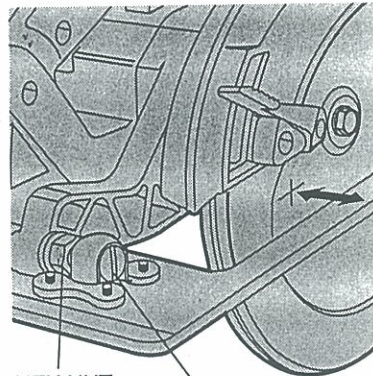

FIG. 12
2. Loosen the hex nut shown in (Figure 12) and then turn the adjustment screw in or out as needed to adjust for parallelism.
3. Adjust the shoe until it is parallel to the blade by measuring from the edge of the shoe to the blade, front & rear. You can measure from the outside edge of the blade to the shoe as shown in (Figure 12) or from the inner edge of the blade to the wider part of the shoe. (Do not measure from the tips of any saw blade teeth.)